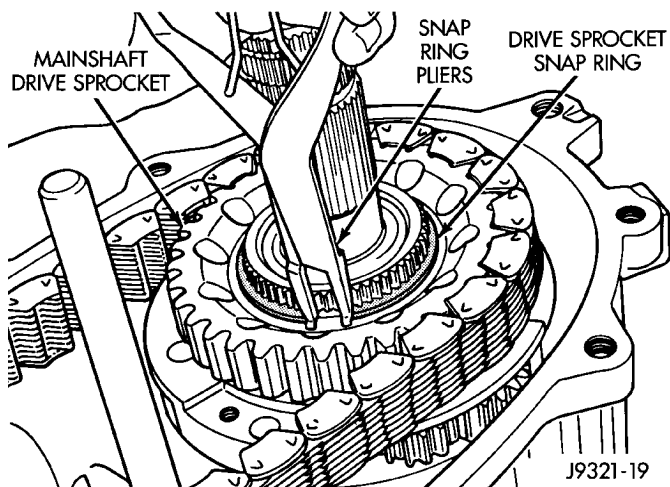

Fig. 65 Installing Drive Sprocket Snap-Ring
(5) Install drive sprocket snap-ring (Fig. 65).